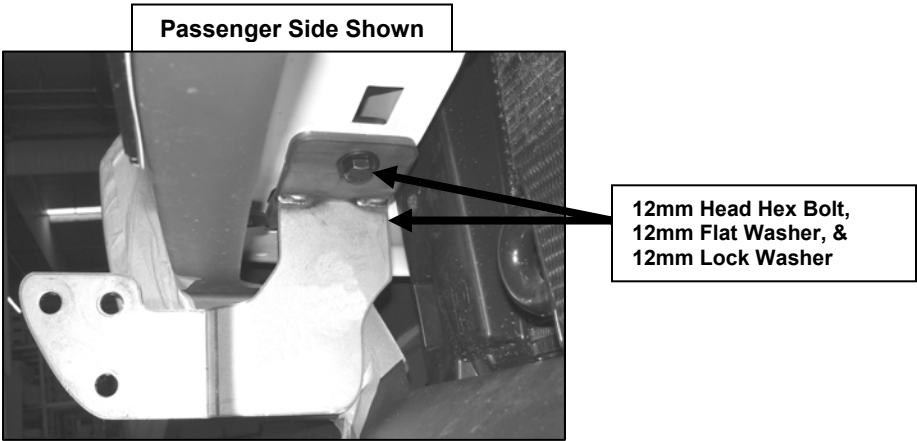

Figure 3
- Hang passenger side Mounting Bracket into position by partially threading (1) 12-1.50mm x 35mm Hex Head Bolt, (1) 12mm Flat Washer, and (1) 12mm Lock Washer on the inner side of the Mounting Bracket and through already inserted Double Nut Plate (Figure 3). From underside of vehicle proceed to install another Bolt with Washer and Lock Washer on the outer side of the Mounting Bracket and through Double Nut Plate. Do not tighten at this time.